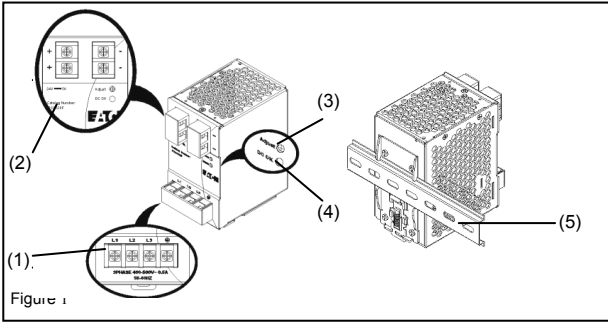
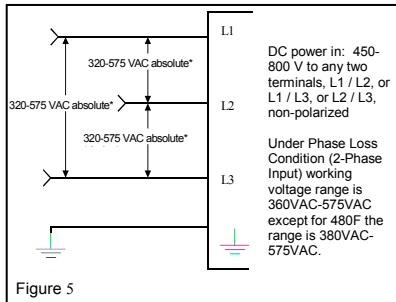

Figure 1
Figure 5
2. Device description (Fig. 1)
5.1. Input connection (Fig. 1 and Fig. 5)
Use L1, L2, L3 and PE connections of input terminal connector (see Fig. 5) to establish the 3 x 400-500 VAC connection.
5.2. Output connection (Fig. 1 (2))
Use the "+" and "-" screw connections to establish the 24 VDC connection. The output provides 24 VDC. The output voltage can be adjusted from 22 to 28 VDC on the potentiometer. The green LED DC OK displays correct function of the output (Fig. 1 (4)).